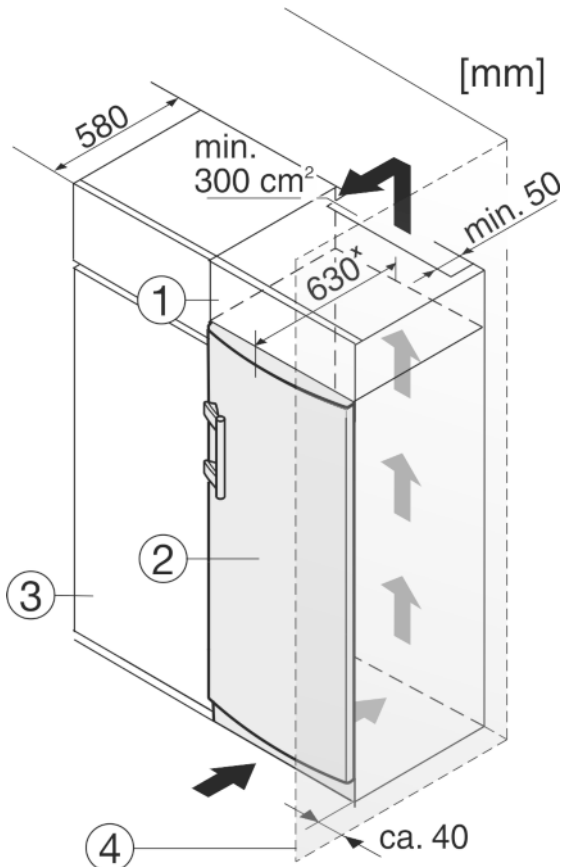

Fig. 10
- (1) Stack cabinet (3) Kitchen cabinet
(2) Appliance (4) Wall
The appliance can be built into kitchen units. A top cupboard Fig. 10 (2) can be added above the appliance in order to bring the appliance Fig. 10 (1) up to the height of the fitted kitchen units.
When installing with kitchen units (max. depth 580 mm), the appliance can be positioned directly next to the kitchen cabinet Fig. 10 (3). The appliance will project by 34 mm* at the sides and 50 mm* in the centre of the appliance in relation to the kitchen cabinet front.
If the appliance is installed with the hinges next to a wall Fig. 10 (4), the distance between appliance and wall has to be at least 40 mm. This corresponds to the projection of the handle when the door is open.